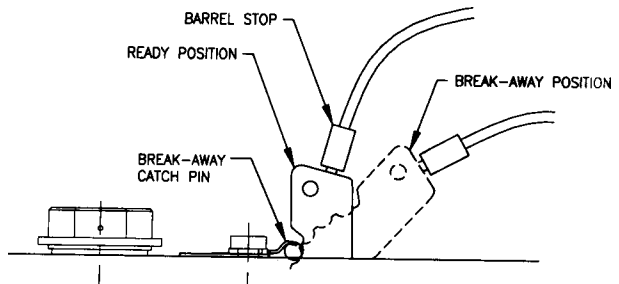

Figure P12: Break-away Cable
8. Make sure the break-away lever is fully rotated to the rear with the break-away catch pin securely located under the break-away spring. The break-away catch pin will be in the lever's uppermost notch. See Figure P12.